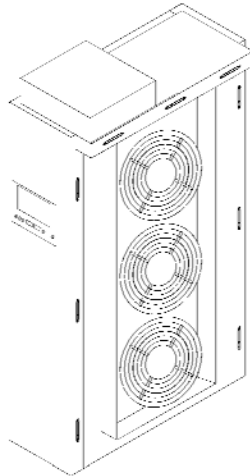

Fig 1
2. Erect the unit compartment. (Fig.1)